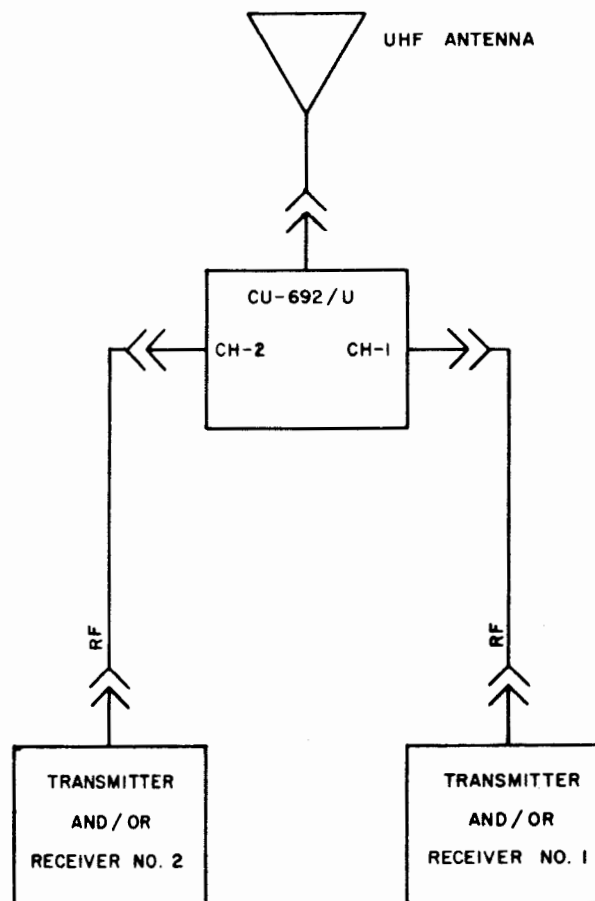

Figure 2-8 Antenna Coupler CU-692/U Interconnection Diagram
c. INTERCONNECTION CABLING DIAGRAM. - See Figure 2-8.